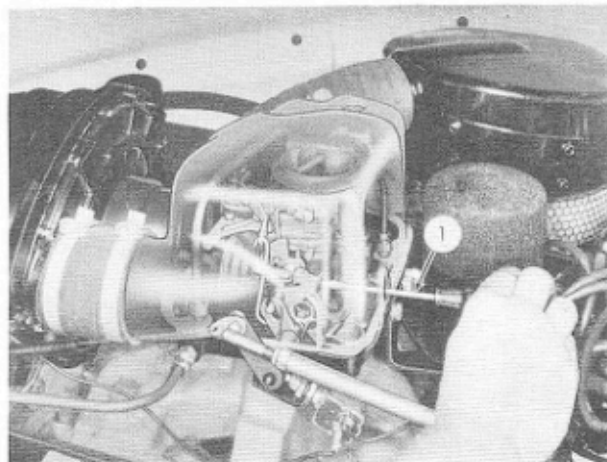

FIG. 15
2. Sight through the outer plug hole and insert a small shank screwdriver through the rear hole in the air chamber cover and adjust the outer idle adjusting screw (see Fig. 15). Adjust to obtain an idle speed